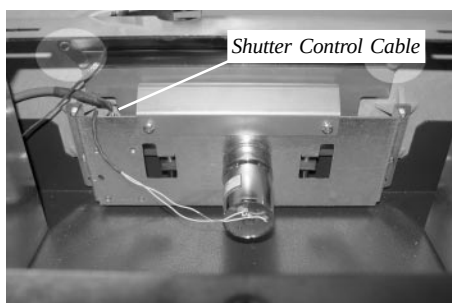

Figure 3-45. The location of the shutter control cable.
7. Refer to Figure 3-45. Disconnect the shutter control cable from the shutter assembly control board.